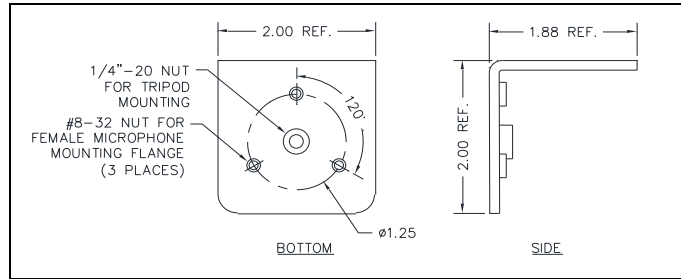

Figure 7. TS100 L-Bracket
Mount the TS100 to a tripod or microphone stand using the included L-bracket (see Figure 7).
- Secure the L-bracket to a microphone stand or tripod (see Figure 7).